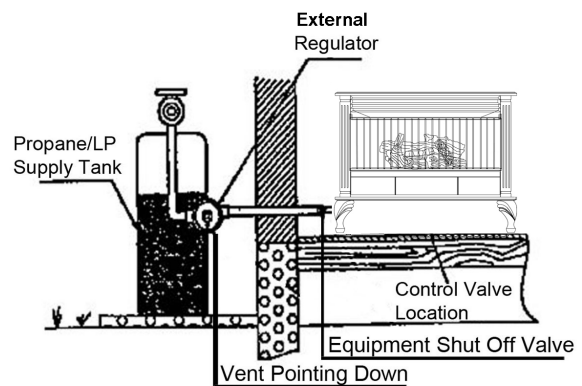

Figure 12- Checking Gas Joints
4. Check all joints from equipment shutoff valve to control valve (Figure 12). Apply mixture of liquid soap and water to gas joints. Bubbles forming show a leak.
3. Check all joints from gas meter to equipment shutoff valve (see Figure 12). Apply mixture of liquid soap and water to gas joints. Bubbles forming show a leak.